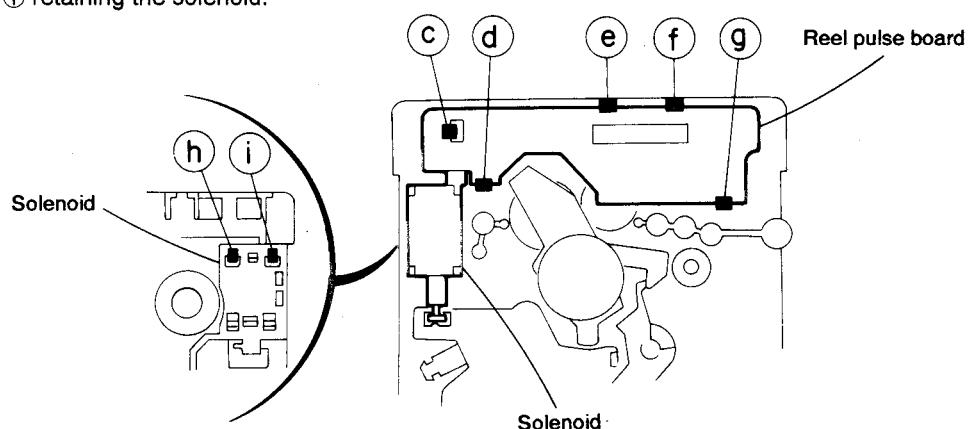

Fig.5-34
■ Removing the Reel Pulse P.C. Board and Solenoid (See Figs. 5-34)
1. Remove the five pawls (⑥, ⑦, ⑧, ⑨ and ⑩) retaining the reel pulse P.C. board.
2. From the surface of the reel pulse P.C. board parts, remove the two pawls ⑪ and ⑫ retaining the solenoid.